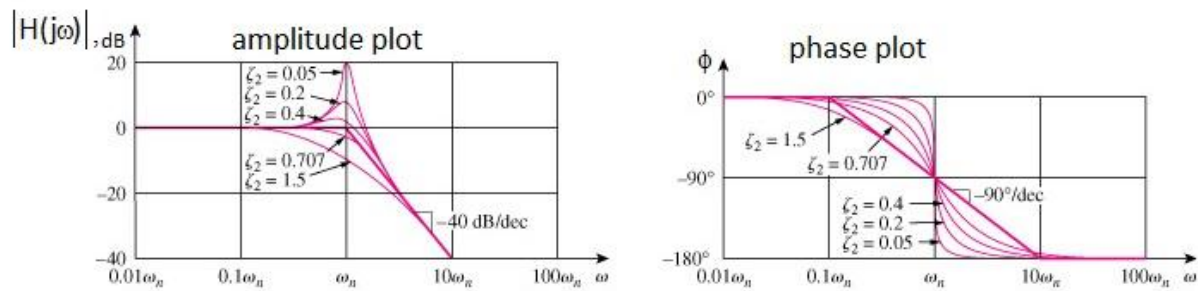

Figure 1: Bode Plots
**Bode diagrams** are graphical techniques that describe the frequency response of a circuit. The Bode diagram helps you quickly visualize how the system responds to a wide range of frequencies. There are two separate plots: amplitude (magnitude) and phase angle and they vary with the frequency (see Figure 1). The plots are on semi log graph paper with the frequency on the horizontal log scale and the amplitude and phase angle on the linear vertical scale. Sometimes the amplitude plot is expressed in **decibels**.